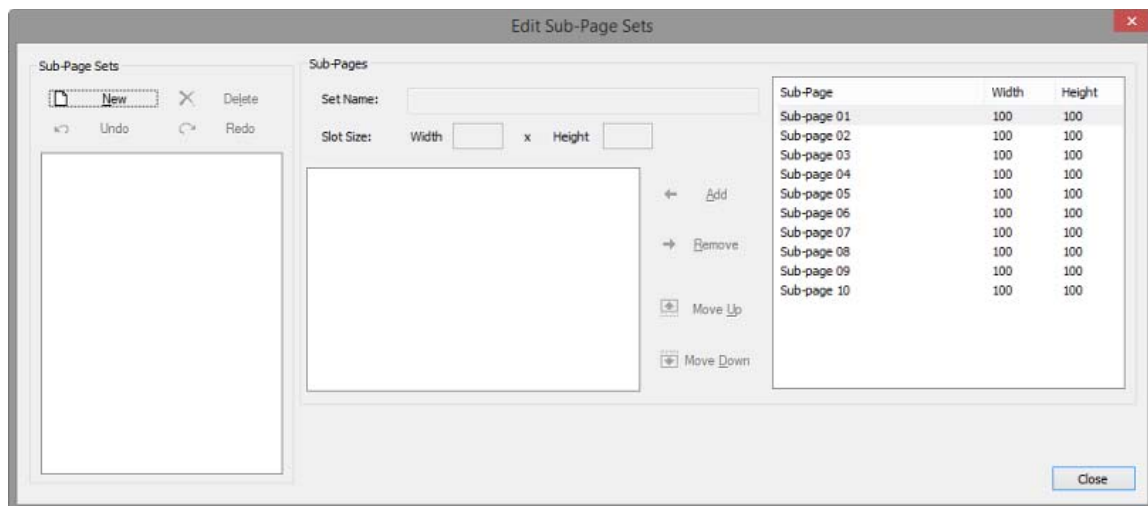

FIG. 108 Edit Sub-Page Sets dialog
1. Select **Panel > Edit Sub-Page Sets** to open the *Edit Sub-Page Sets* dialog (FIG. 108):